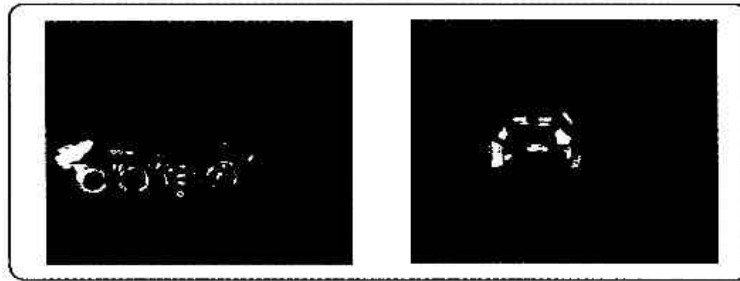

Figure A-7. BTR-60 armored personnel carrier.
g. **BTR-60 Armored Personnel Carrier** (Figure A-7).